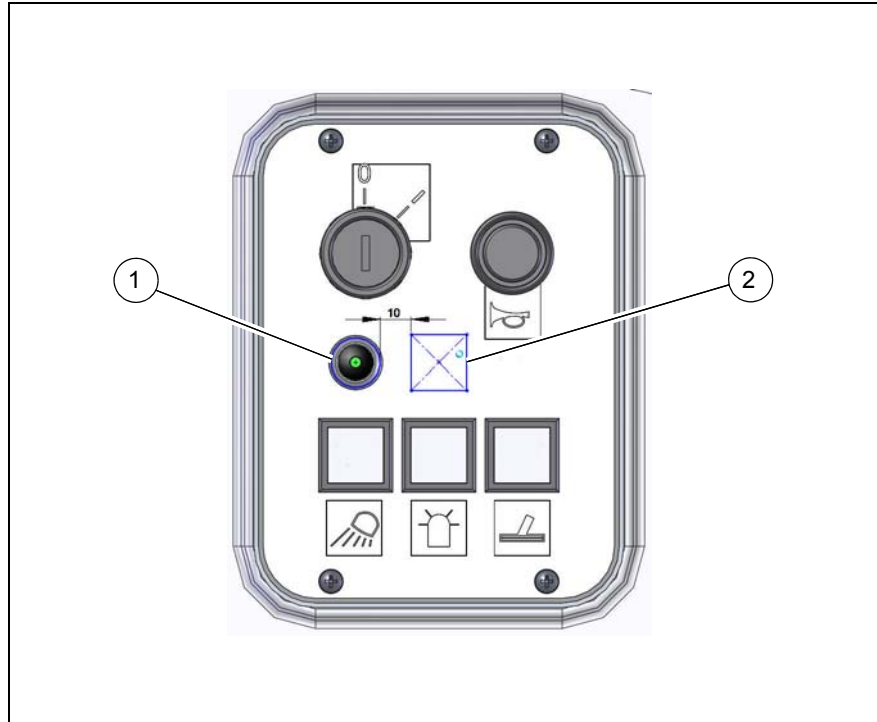

Fig.1
2. Drill a 14 mm diameter hole in the control panel in order to mount the on-board chemical dosing switch (Fig. 1/1). Refer to Figure 1 for the position.
3. Clean the surface and fix the chemical dosage label (Fig. 1/2).